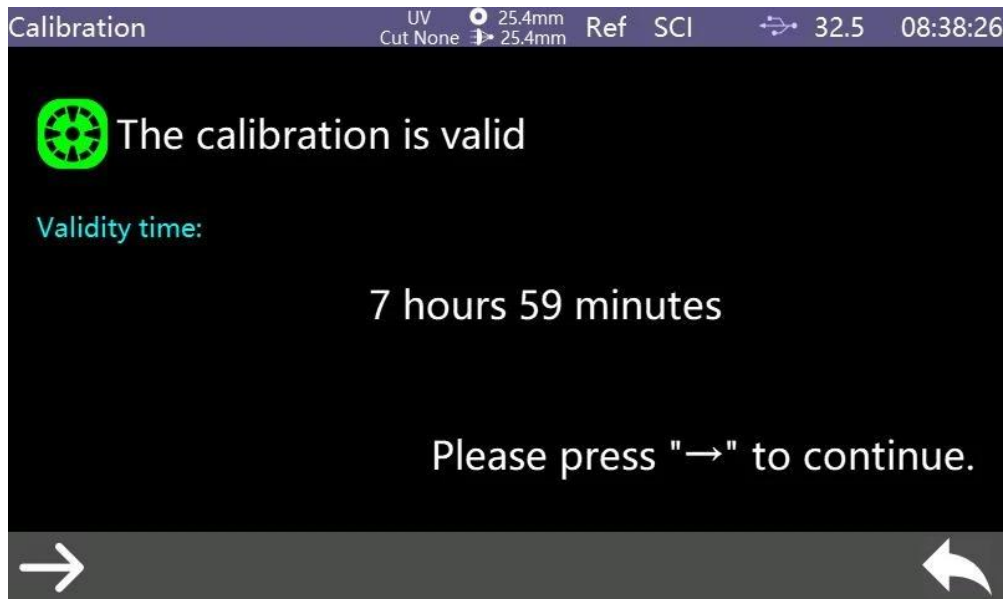

Figure 4
2. Click "Calibrate" to enter white and black calibration interface as shown in Figure 4. It will show whether the calibration is valid or not and how long the remaining time is.
After black and white calibration are finished rightly, the instrument system will reset remaining time according to valid time since last calibration (As shown in Figure 4).
After finishing of calibration rightly, the instrument system will reset remaining time according to valid time since last calibration (As shown in Figure 4).